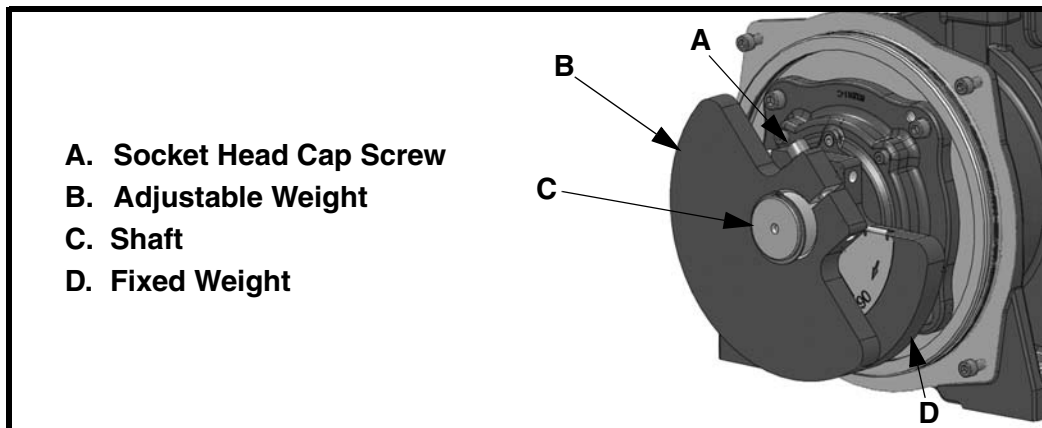

Figure 8. Adjusting Eccentric Weights
3. Loosen nut or screw (A, Figure 8) so adjustable weight (B) will rotate around shaft (C).
4. See Figure 8. Rotate adjustable eccentric weight to proper setting. To produce more force, move weight to higher setting (i.e., higher number). When set, tighten cap screw or nut according to Table II.